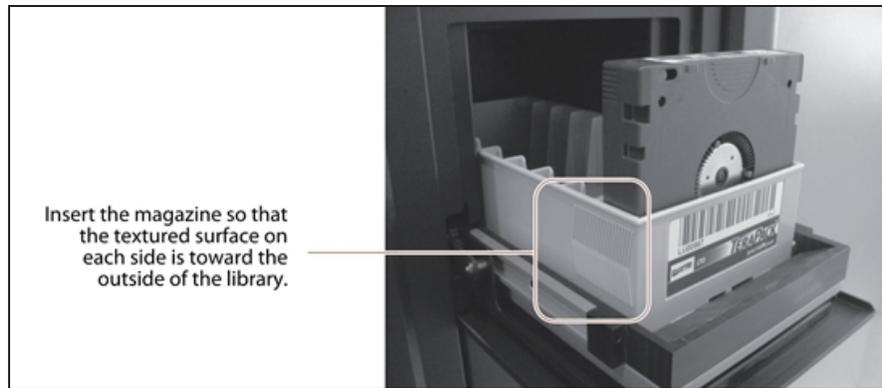

Figure 78 Insert a magazine into the TAP, making sure that it is correctly oriented.
3. Insert the magazine into the tray on the open TAP with the textured surface side toward the outside of the library, as shown in Figure 78 on page 143.
4. Click **Open TAP** to access the exported magazine. Exchange the magazine or any desired media in the TAP then push the TAP door closed and click **Close TAP**. If you exchange a magazine, make sure the new magazine is oriented correctly (see Figure 78 on page 143).